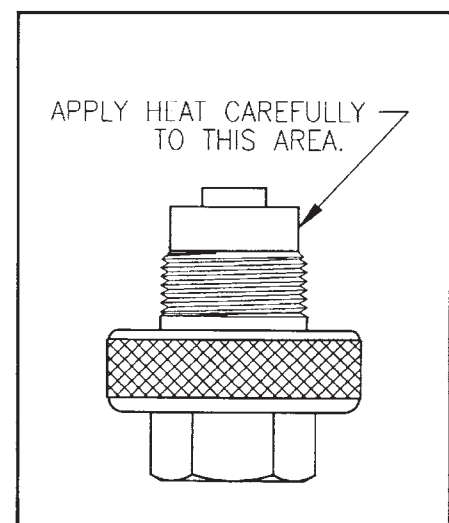

Fig. 4
3. Insert an Allen wrench into the inlet end of the adapter. Apply counter-clockwise force with the Allen wrench. Use a small (1-lb.) propane torch to apply heat **carefully** by wafting the torch back and forth over the end of the adapter until the adhesive softens (see Fig. 4). **Do not** apply a steady direct heat from the flame tip.